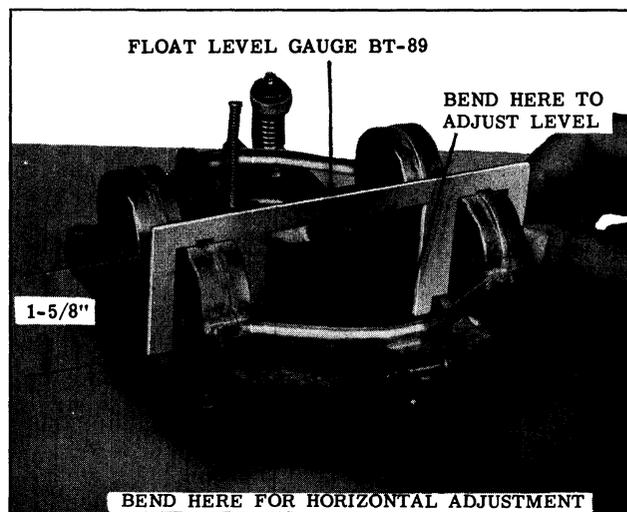

Fig. 8-101 Float Level Adjustment
1. Place gauge BT-89 in position as shown in Fig. 8-101. Be sure the gauge is in line with center of floats.
2. Bend float arm at center as shown in Fig. 8-101, to raise or lower floats. Adjustment is correct when the bottom of the float just touches the bottom of the float gauge BT-89 (height 1-5/8" from face of gasket).
3. With gauge BT-89 in place, visually check floats to see if they are centered between the legs of the gauge. If required, bend float arms until floats are centered. (See Fig. 8-101)